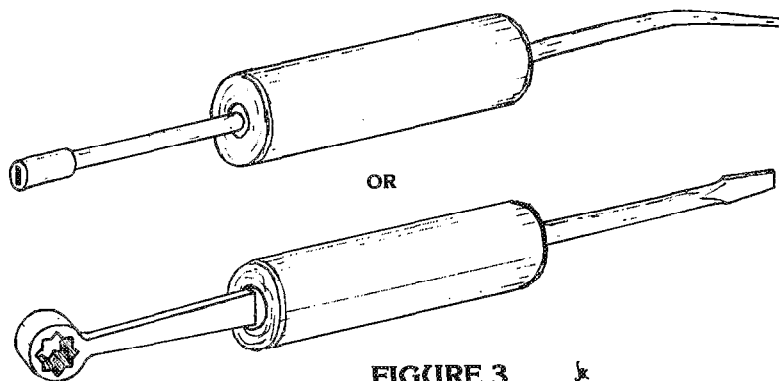

FIGURE 3
1. A double-ended tool for fine regulating; one end with a short, pointed capstan regulator to adjust escapement, the other end holds a grand drop screw regulator (See **Figure 3**).
The factory tool is held together with epoxy and tape. A useful field tool would have to be flexible enough to include a grand jack screw regulator head and a small screw-driver blade. This would permit the use of the tool in any kind of grand piano. Drop screws come in male and female versions and jack-regulating buttons can be capstans or equipped with wire-regulating screws. The essential ingredients are illustrated in **Figure 3**. Is there someone out there who can make it all fit together and work?